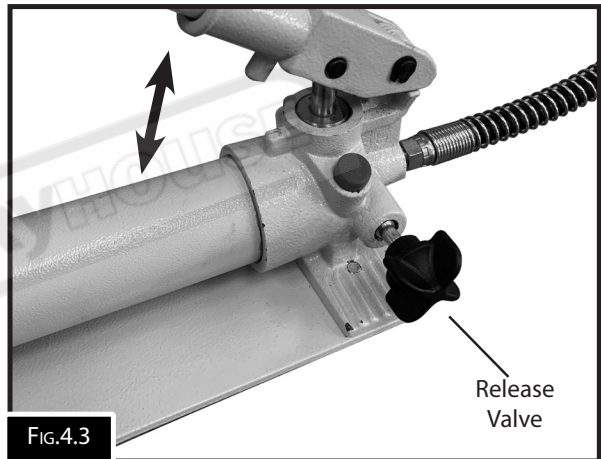

FIG.4.3
2. Close the release valve by turning it clockwise until tightly closed. (Fig. 4.3)